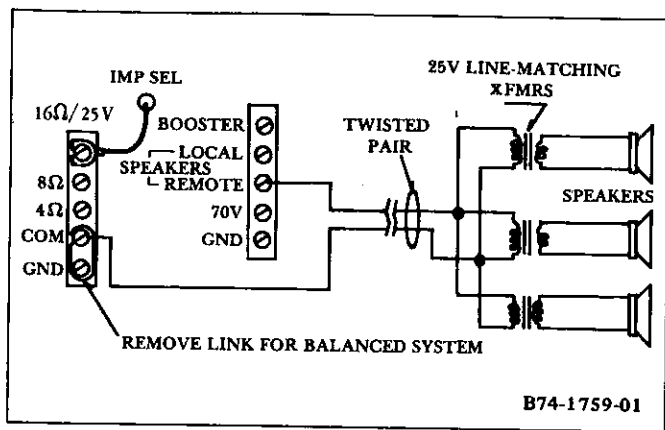

Figure 11—Matching 25V Constant-Voltage System
- 1) Figure 11 shows the connections to a 25V/16-ohm constant-voltage system. The speaker leads may be connected to REMOTE or LOCAL, as required.
- 2) Figure 11 shows connection for a 70V constant-voltage system. The speaker lead may be connected to REMOTE or LOCAL, as required.